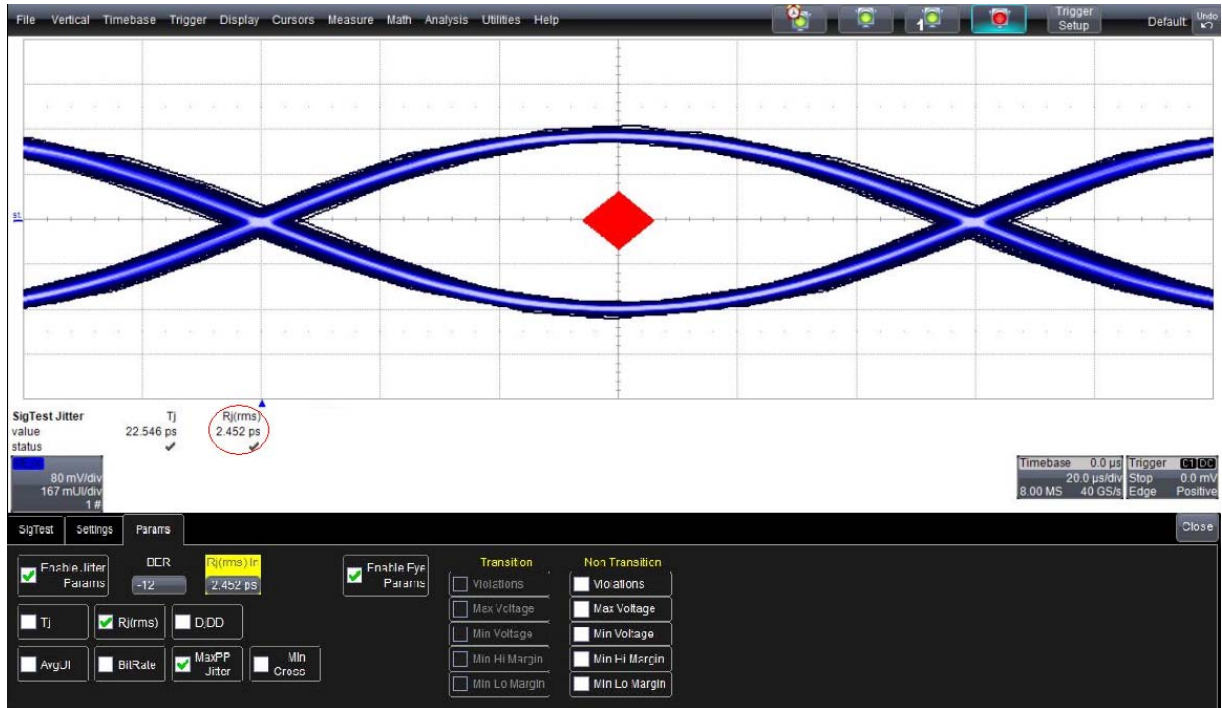

Figure 9
- In Params tab: input the final measured Rj(rms) value in Rj(rms) In box as shown in Figure 9.